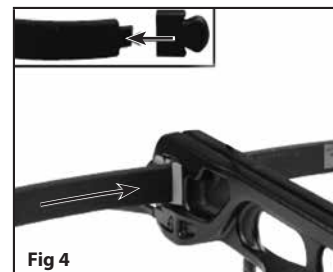

Fig 4
1. Attach a plastic tip on each end of the limb. Make sure to attach the tips straight and push in securely (Fig 4).